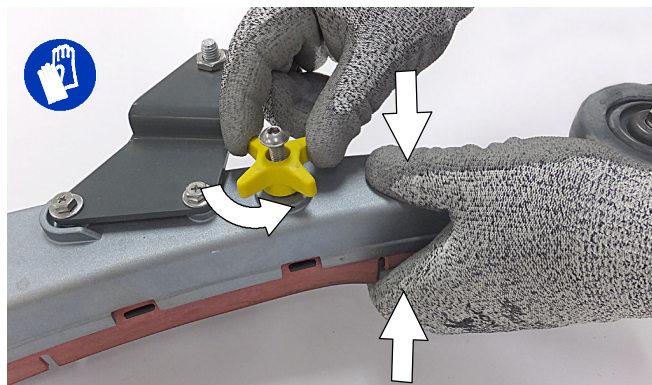

FIG. 88
2. Fully loosen the two outside knobs on squeegee assembly. This will separate the spring loaded blade retainer from squeegee frame (Figure 88). To loosen the knobs quickly, squeeze the blade retainer and squeegee frame together.